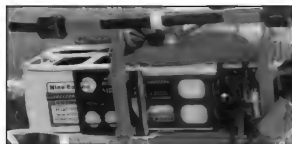
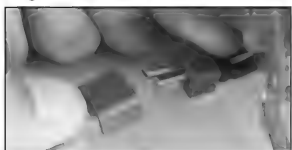

Fig. 2
Fig. 3
3. Install the flight battery (Fig. 2) and connect the receiver: the monitor LED flashes (Fig. 3).